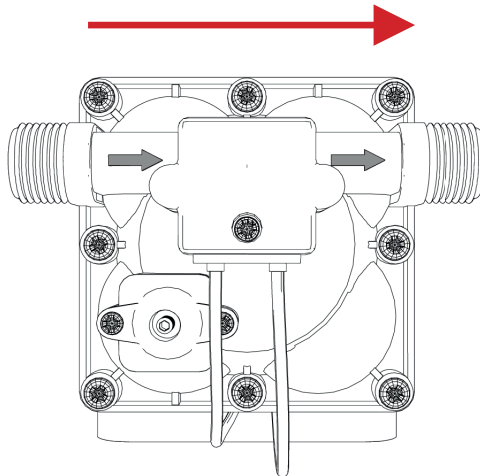

Fig. 6: Flow direction
**Important!** Note the flow direction! The flow direction of the pump is indicated by an arrow on the pump head (Fig. 6).